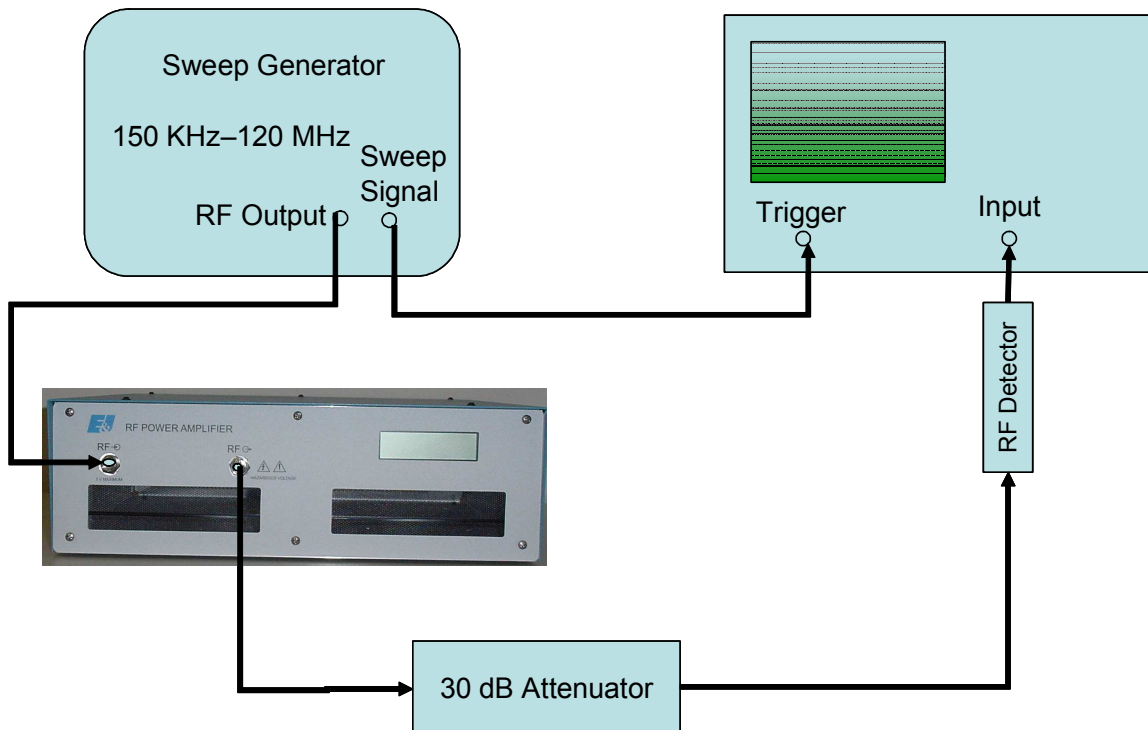

Figure 4-1. Gain Measurement
2. Connect the equipment as shown in Figure 4-1, then proceed as follows:
- g) Reconnect the 3100L into the test set-up of Figure 4-1.